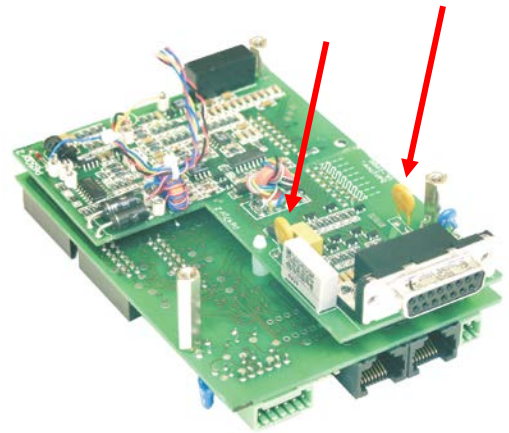

fig 6 - 1
- Check fuse F27_2 in series with Ø (pin 8 of CON E), see fig. 6 - 1. To check the fuse, measure the voltage between Ø and the minus output, a high voltage means too much current flowing through the fuse. F27_2 = 650 mA, self resetting.